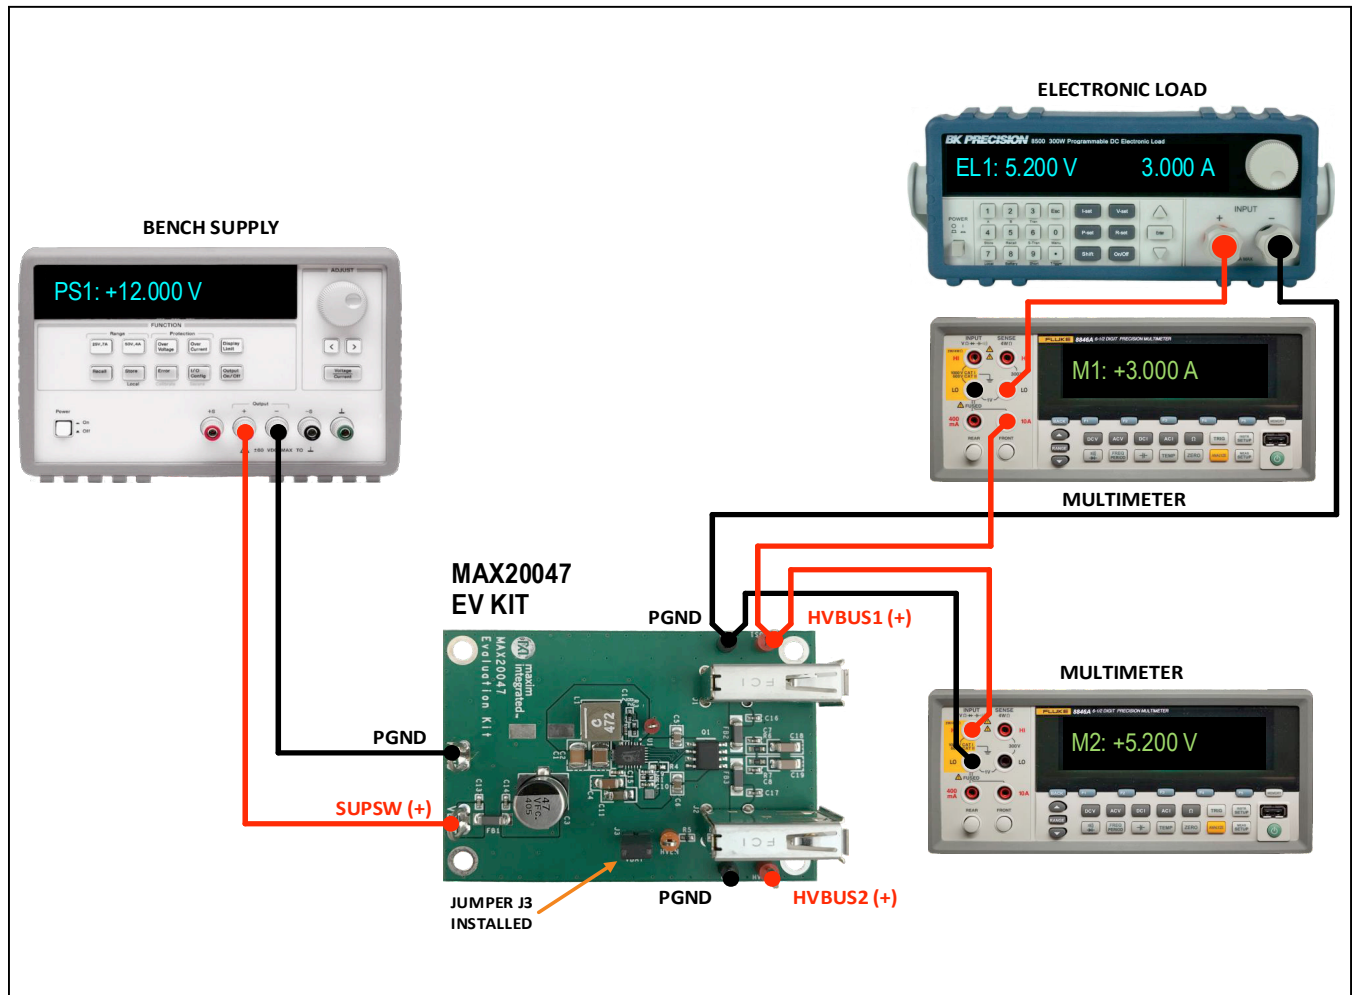

Figure 5. Test Setup for Testing DCP Current Limit
The VBUS current limit for both USB ports are factory configured for 3.3A, which can be changed to 2.75A, 2.41A, or 2.1A by selecting a different R_{ILIM} resistor. See the *Other Configurations* section for details on making this selection. *Figure 5* shows the test setup to evaluate the IC's VBUS current limit:
1) Connect the equipment (see *Figure 5*), set PS1 to